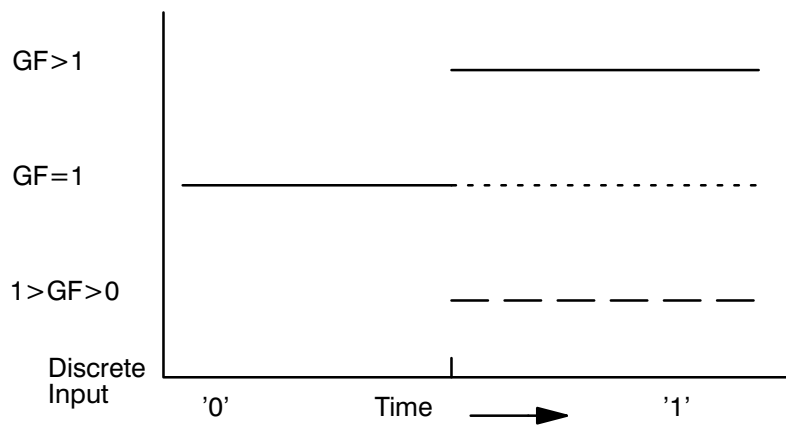

Figure 3-7. Discrete Adaptive Gain
**Discrete Adaptive Gain** — The Discrete Adaptive Gain Modifier (DAGM) FST instruction will change the loop’s active gain based on the value of a discrete register or loadable function and the value of the discrete gain factor. The discrete adaptive gain factor will be set equal to the discrete gain factor when the discrete value is equal to one. The discrete adaptive gain factor will be set equal to the unity gain when the discrete value is equal to zero. Figure 3-7 illustrates the operation of the discrete adaptive gain function. See the FST Section for more information on the DAGM instruction.